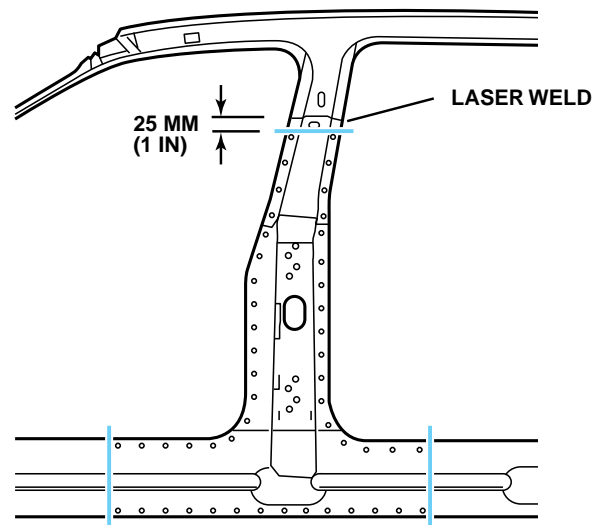

Fig. 1-15 — 2000 DeVille Inner Center Pillar
3. Locate the laser weld in the center pillar upper area (Fig. 1-15).